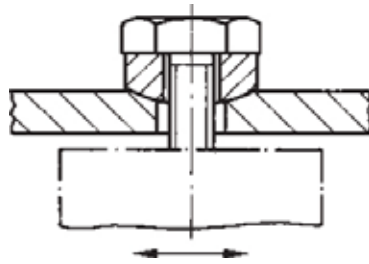

Fig. 1: Individual fixing
- a) A non-rigid fixing is required for every holding solenoid so that each one can adapt to uneven surfaces (Fig. 1).